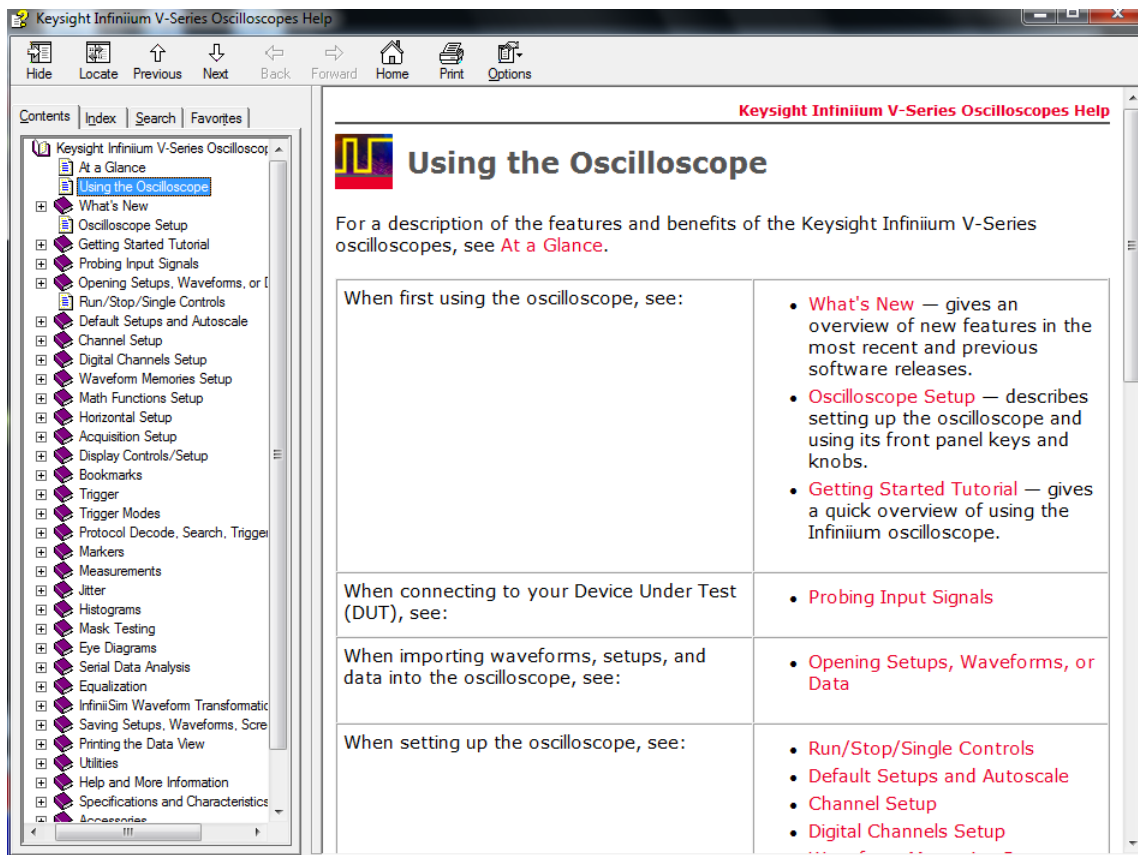

Figure 21 Online Help home page
- Choose **Help > Contents...** from the main menu to open the online help home page (**Figure 21**).